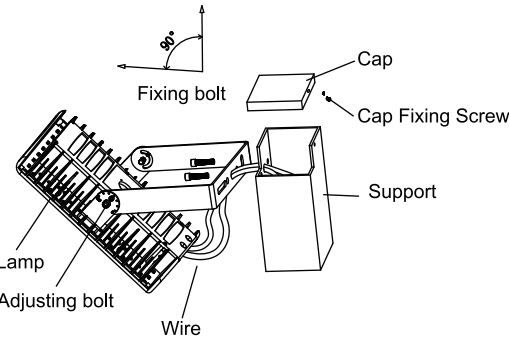

Figure 10-1
Step 1: Release the cap fixing screw and take the cap down;Fix the light on the support;Tighten the fixing bolts.(Figure 10-1)
Step 2: Let the AC wire through hole of the support; Wire AC line correctly and put it into the support; Tighten cap fixing screw.(Figure 10-1)
Step 3: Release adjusting screws; Adjust light angle as per actual demands; Tighten adjusting screws.(Figure 10-1)
**Attention: adjustable angle range: 0-90 degree. (Figure 10-1)**